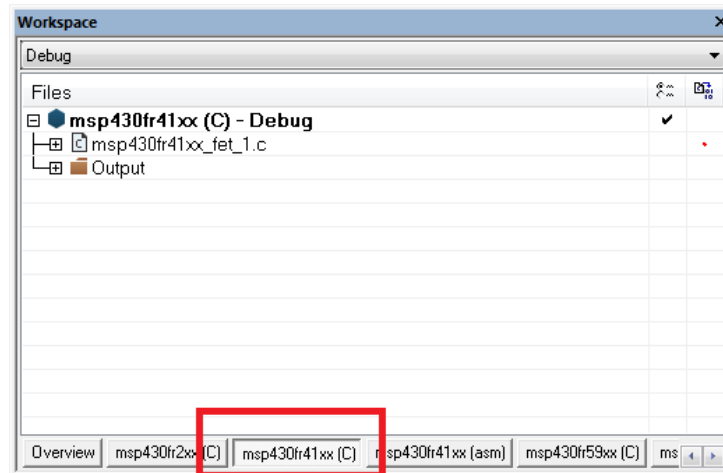

Figure 1-1. Activate Project
| Figure 1-1. Activate Project..... | 8 |
3. Click on the tab at the bottom of the workspace window that corresponds to the MSP430 device (MSP430xxxx) and desired language (assembler or C) to set a project active (see Figure 1-1).